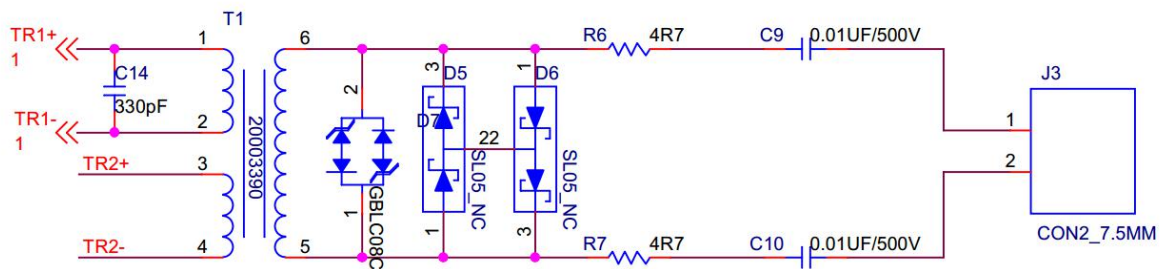

Figure 7: Signal receiving circuit diagram
3) The signal receiving circuit is shown in Figure 7: